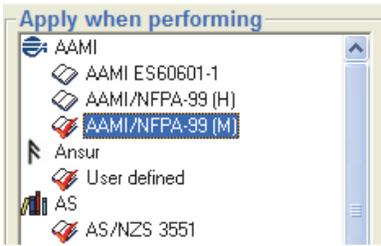

Figure 3-20. Standards Selection
3. Click on the standard(s) that you want to set a limit value. The list of standards shown in Figure 3-20 is influenced by the currently installed Plug-In. Table 3-1 is a list of International Standards that are used by the Plug-In.